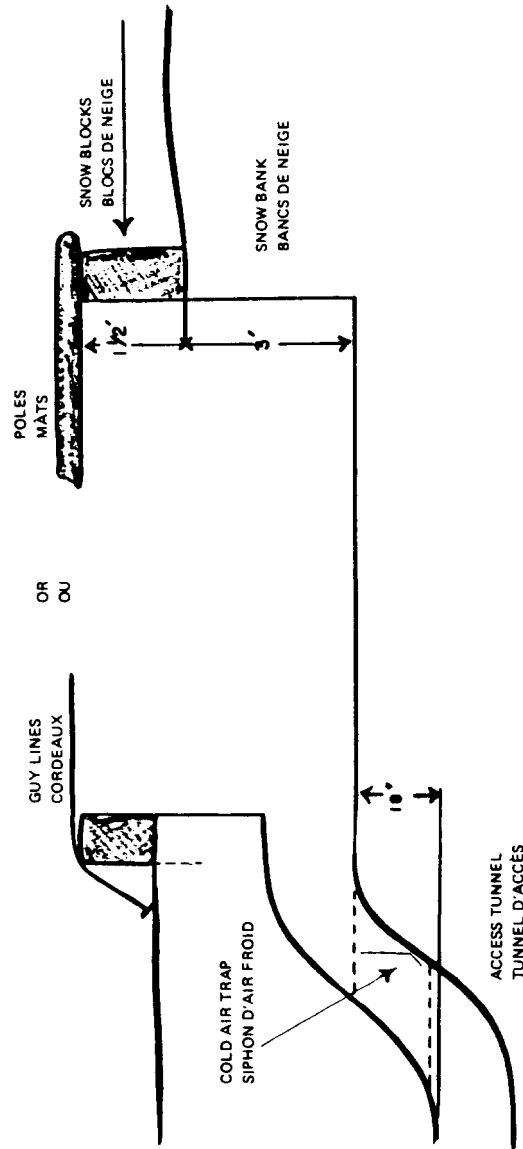

Figure 3-19 Tent Roof Shelter - Stage 4
- f. If the snow is not deep enough or the need for concealment is not great, the hole need only be dug to three feet with a row of snow blocks 11/2 feet high placed between the first and second marks of the tent outline, around the complete hole (see Figure 3-19).
- g. The shelter exit should go out level with the floor and then down so that the top of the tunnel entrance is eighteen inches below the floor level. This acts as an air trap, keeping the cold air from entering the floor of the shelter (see Figure 3-19).